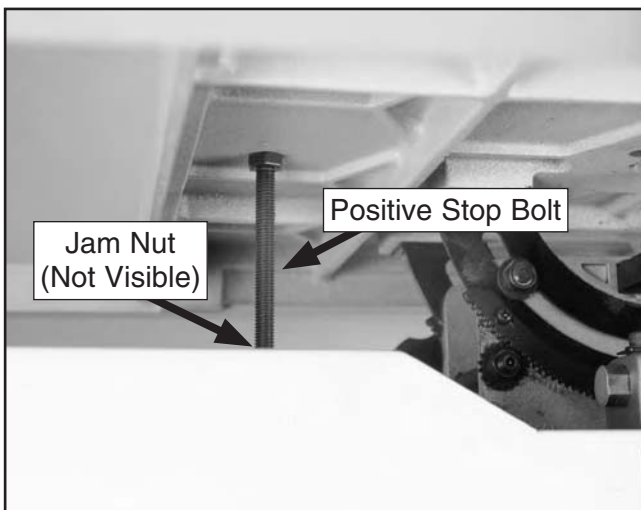

Figure 19. Positive stop bolt and jam nut.
2. Locate the positive stop bolt under the table as shown in **Figure 19**.
5. Place a 6" square on the table surface and determine if the blade is square to the table surface as shown in **Figure 19**.